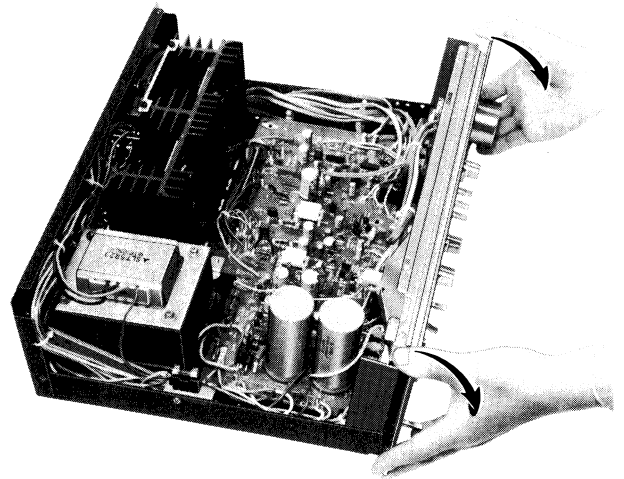

Fig. 3
8. As photo in Fig. 3, hold the panel at its side ends and push it downward tilting slightly its top part to the forward direction.